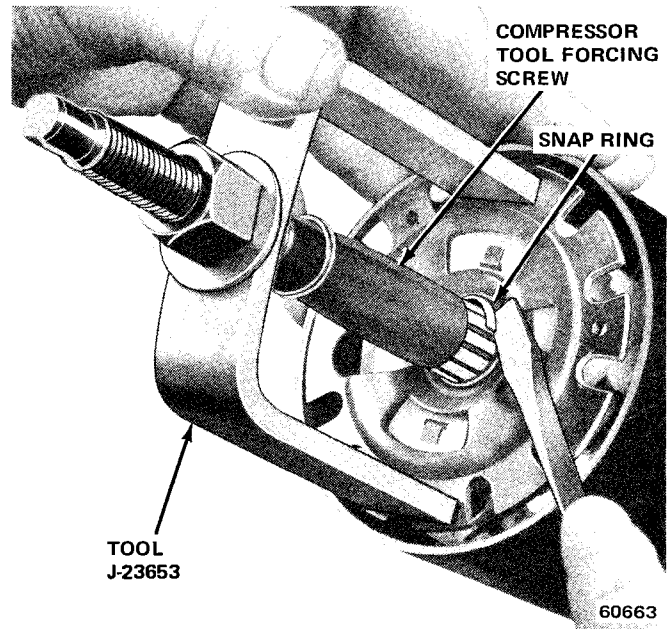

Fig. 2J-5 Steering Shaft Snap Ring Removal
- (b) If shaft has American threads, use tool J-23653 as is to compress lockplate and unseat snap ring (fig. 2J-5).